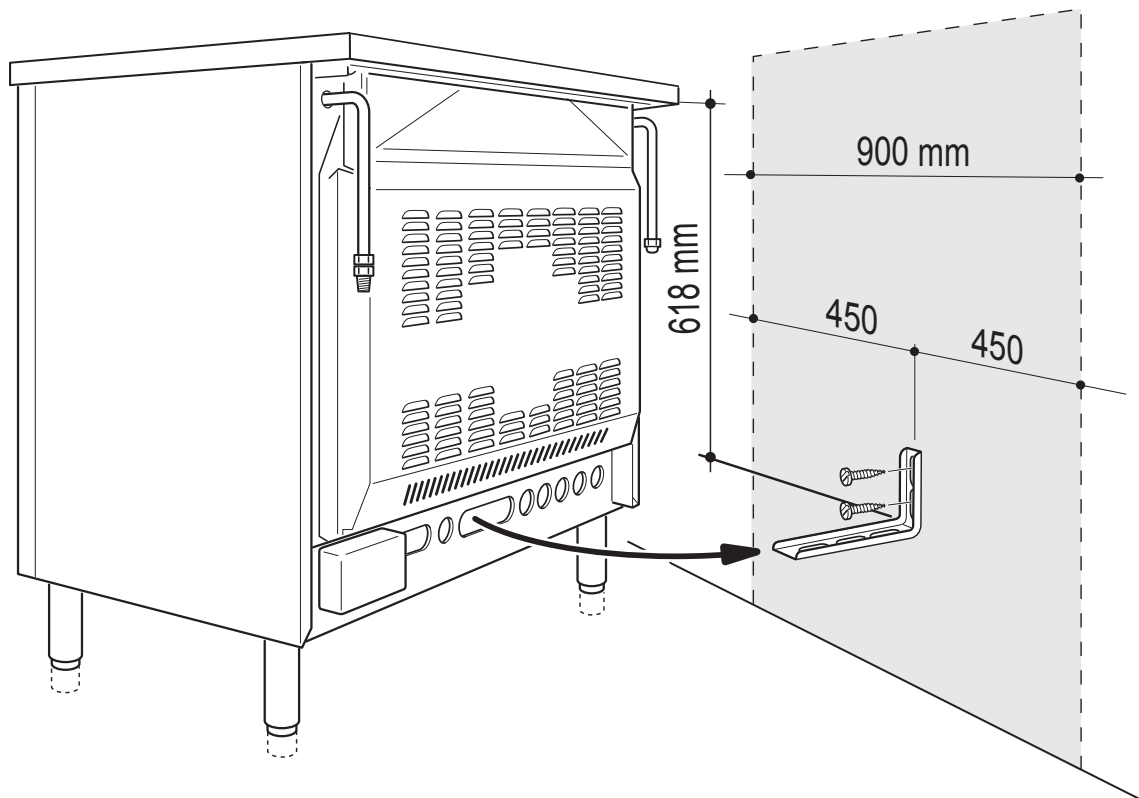

Fig. 1.9
1. After you have located where the cooker is to be positioned, mark on the wall the place where the two screws of the anti-tilt bracket have to be fitted. Please follow the indications given in fig. 1.9.
4. Move the cooker to the wall and adjust the height of the anti-tilt bracket so that it can engage in the slot on the cooker's back, as shown in fig. 1.9.